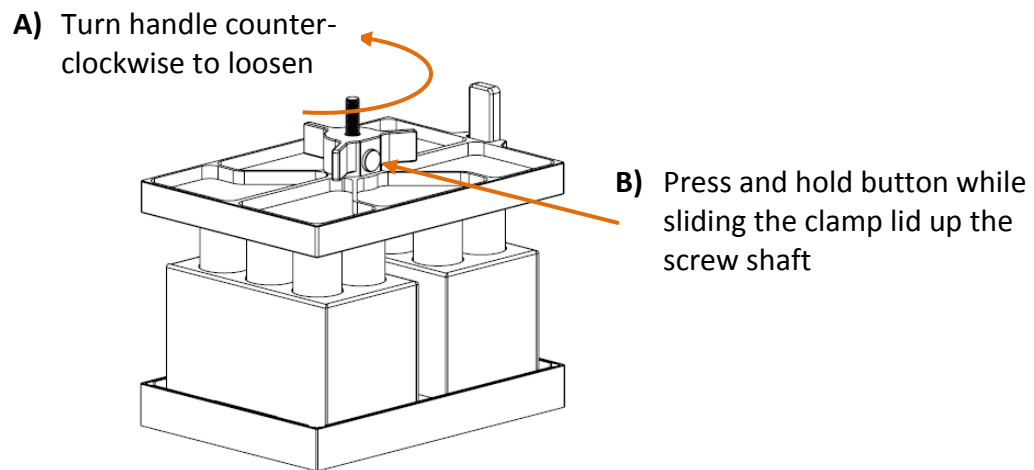

Figure 12 – Releasing the Clamp Lid
2. Turn the clamp lid handle counter-clockwise until it rotates freely (Figure 12).